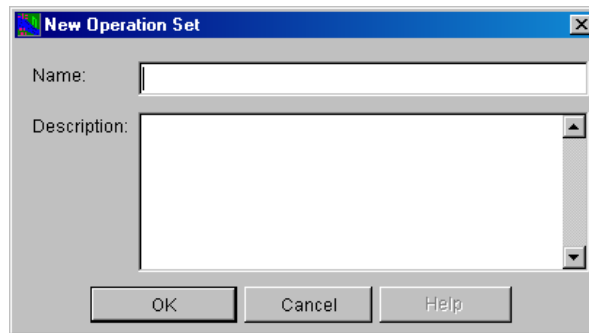

Figure 11.2 New Operation Set Dialog Box
1. Select **New** from the **Operations** menu of the Reservoir Editor. The **New Operation Set** dialog box will open (Figure 11.2).